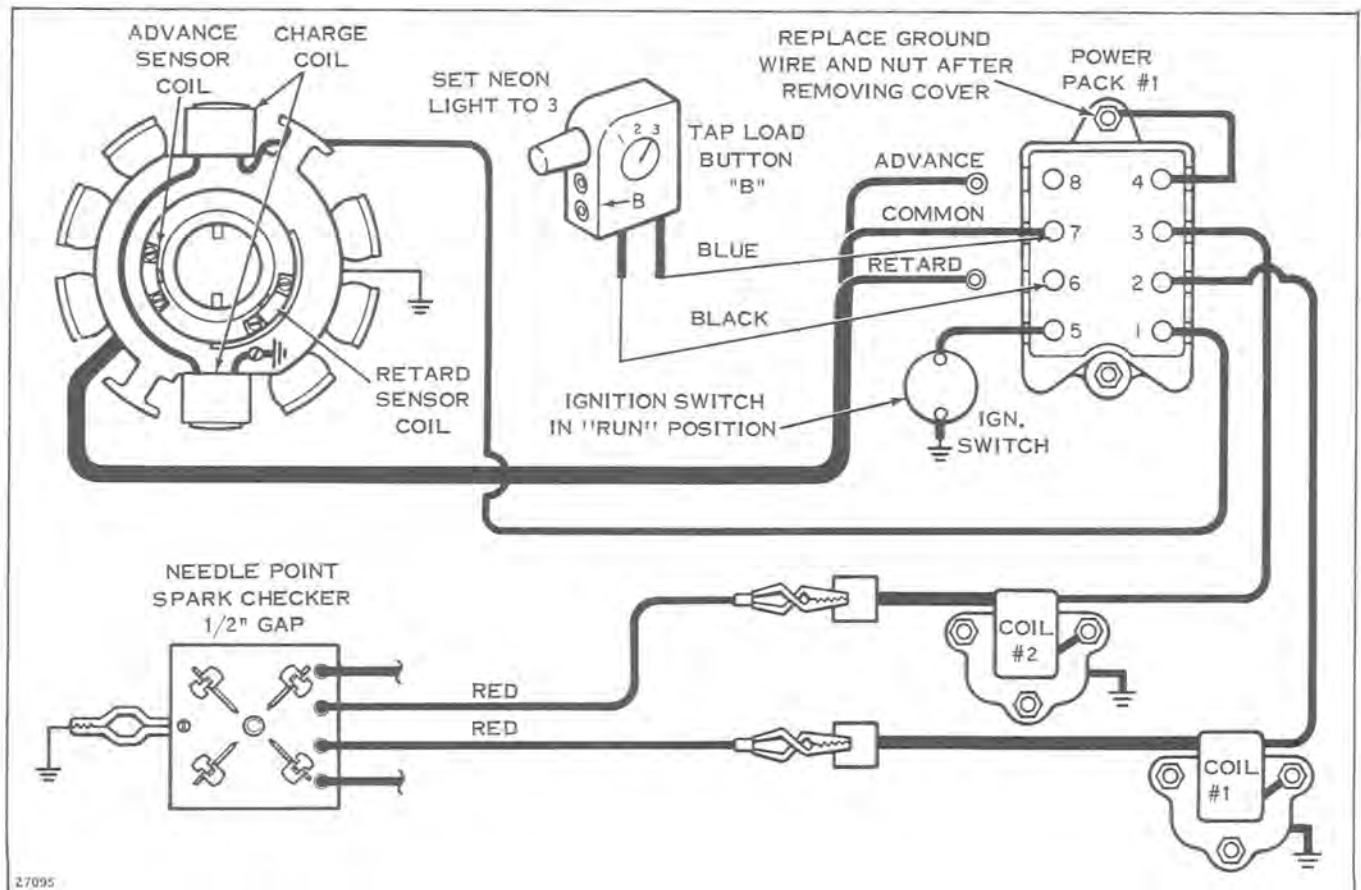

Figure 7-16
- A. Connect needle point spark checker as illustrated. See Figure 7-16.
- B. Remove retard sensor white/green stripe lead and advance sensor lead white/black stripe from Power Pack terminals #6 and #8. (Do not allow leads to touch ground.) See Figure 7-16.
- C. Connect neon tester S80 or M80 black lead to Power Pack terminal #6 and blue lead to sensor common (terminal #7). Set rotary switch to position #3. See Figure 7-16.
- E. Crank engine with manual starter, and at same time rapidly tap neon tester load button "B". See Figure 7-16.